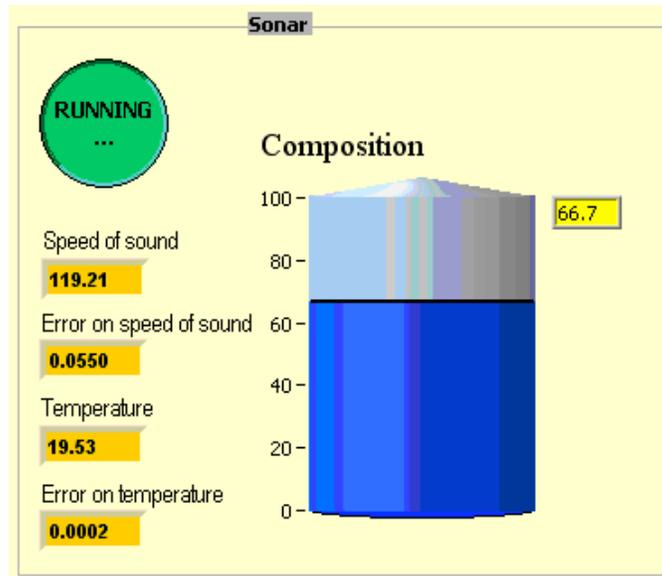

Figure 4.8: The Sonar System while running with 66.7 % of C4F10.
- 4.- The values of the temperature, Speed of sound and the corresponding errors are shown in the display window is shown in figure 4.8.
At the end of the measurement procedure as is shown in the display window is shown in figure 4.8. In this case the tank filling show 66.7 percent of filling.